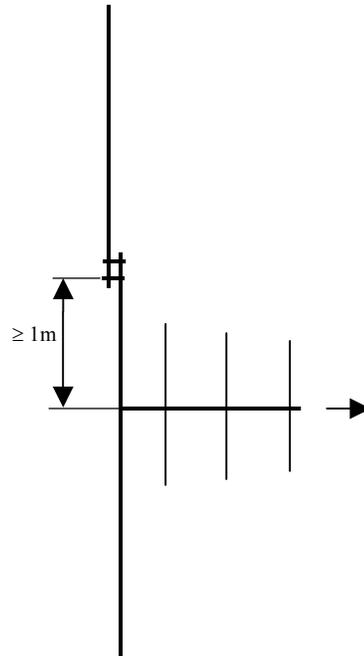

Fig. No3 Mounting of two antennas of the repeater
3. If two antennas are used, one of which directional antenna, they must be mounted as shown in fig. No3, applying two coaxial connective cables.